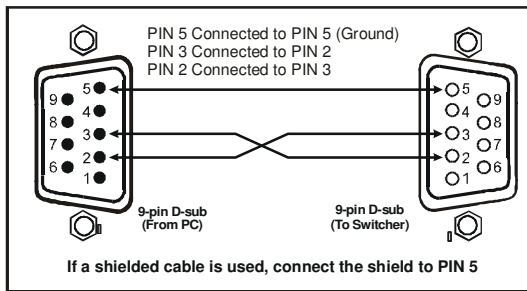

Figure 6: Connecting the PC
- Connect the RS-232 9-pin D-sub port on your PC to the RS-232 9-pin D-sub rear panel port on the **VP-411DS** unit, forming a cross-connection¹, as Figure 6 illustrates